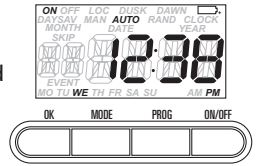

Fig. 15
- The battery voltage is continuously monitored. If a low voltage is detected, the low battery indicator will be displayed (Fig. 15).